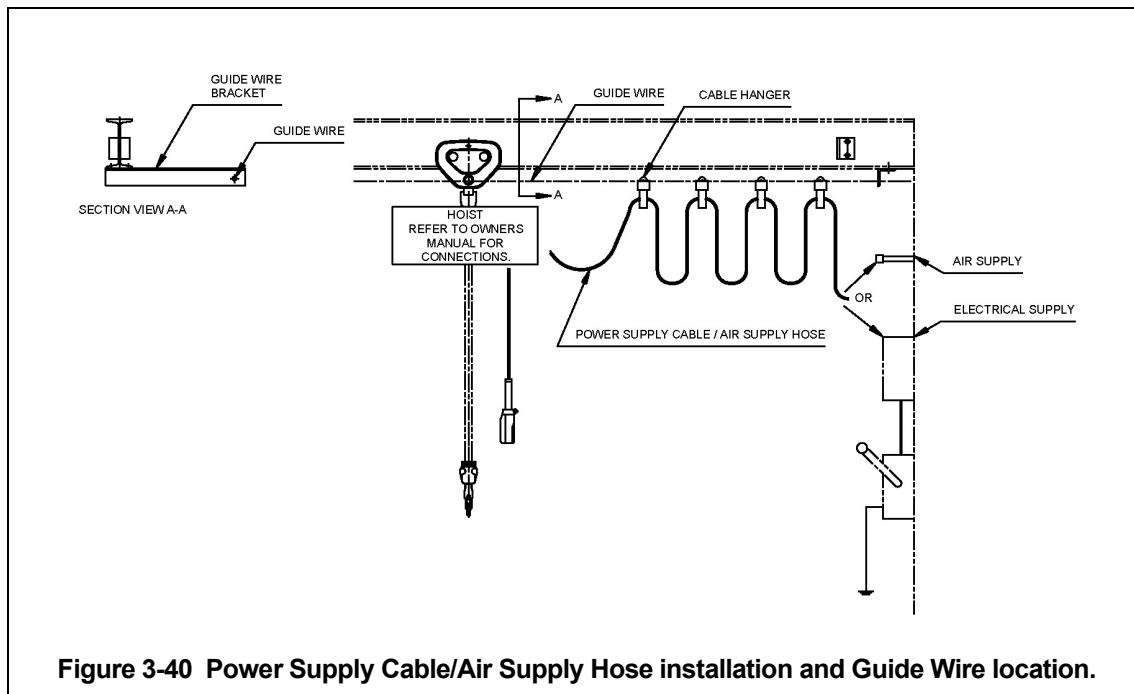

Figure 3-40 Power Supply Cable/Air Supply Hose installation and Guide Wire location.
- Install a guide wire system parallel to the beam. (See **Figure 3-40**)